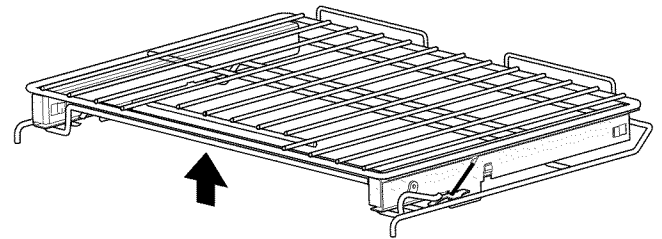

Figure 5: Extensible glide rack with release lever in unlocked position
2. While holding up the release lever (Figure 5), pull the glide rack out of the oven until the stop position is reached, use two hands if necessary.